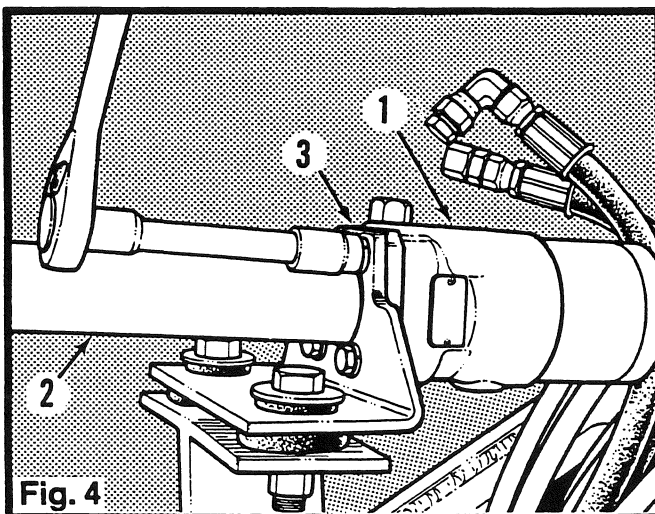

Fig. 4
3. Remove the capscrews that fasten the steering unit (1) to the steering column (2) and bracket (3). (Fig. 4) Remove the steering unit (1) from the grader.